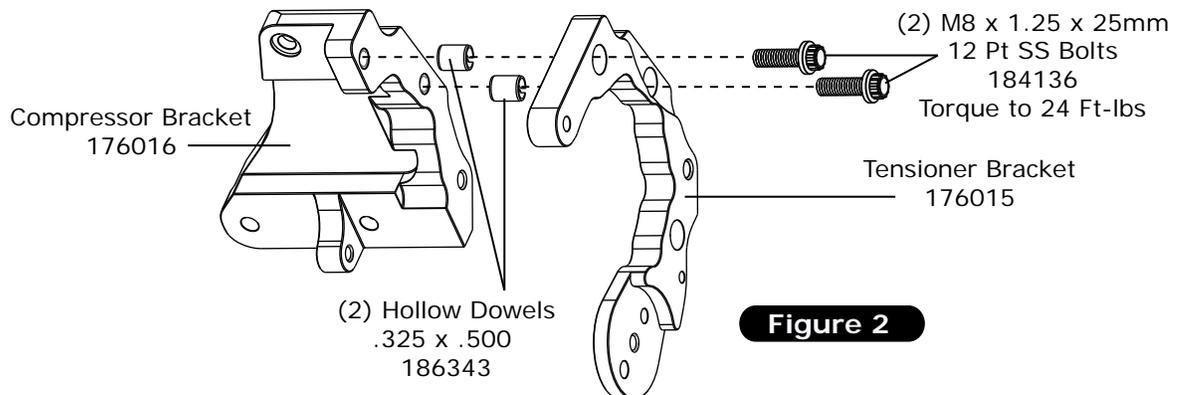

Figure 2
1. Assemble two-piece bracket as shown in Figure 2, below.